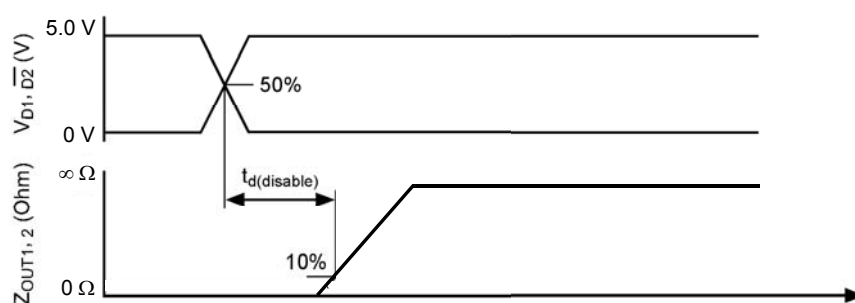

Figure 3. Disable Delay Time
25. Disable Delay Time is the time duration from the midpoint of the D (disable) input signal to 10% of the output tri-state response. See Figure 3, page 8.